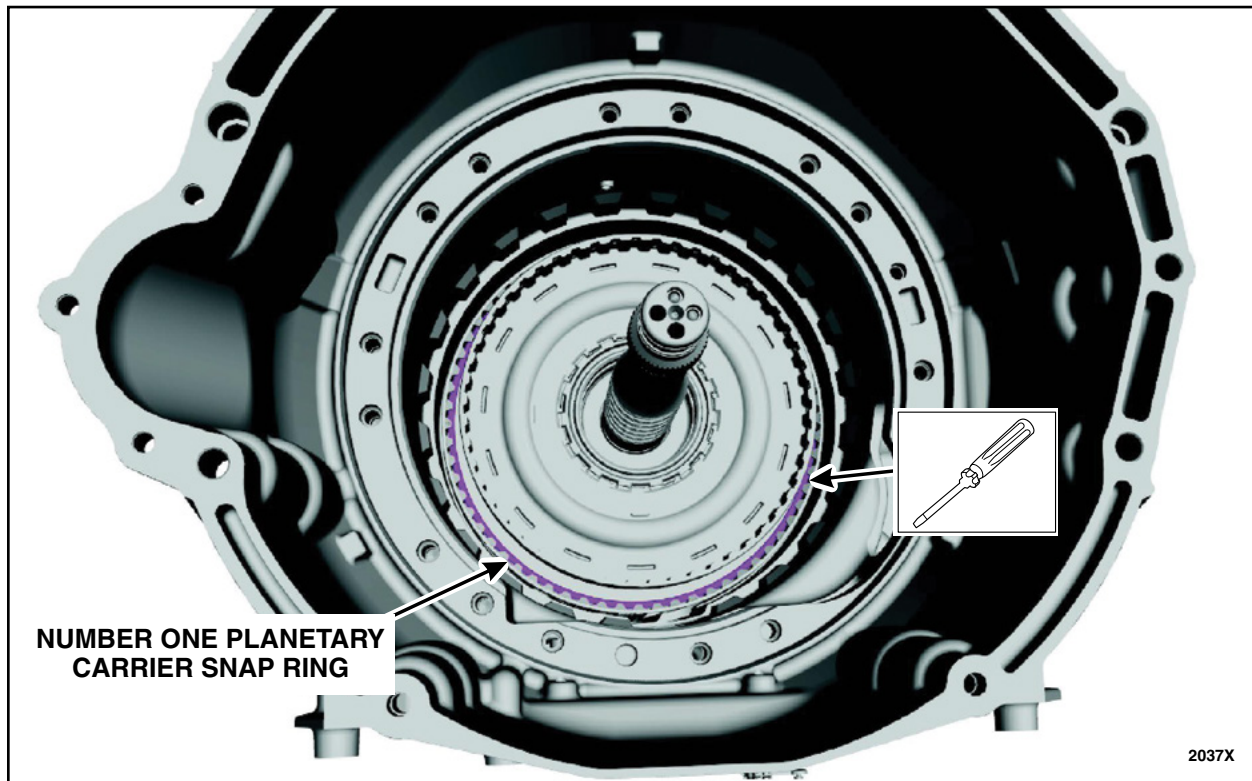

FIGURE 15
18. Using a long flat head screwdriver, install the number one planetary carrier snap ring. Be sure that the snap ring is fully seated. See Figure 15.